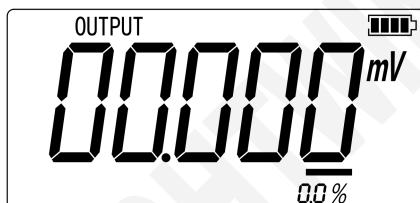

Figure 2.1-4
- Press **mV**, switch to DC mV output mode. The screen will display as shown in Figure 2.1-4